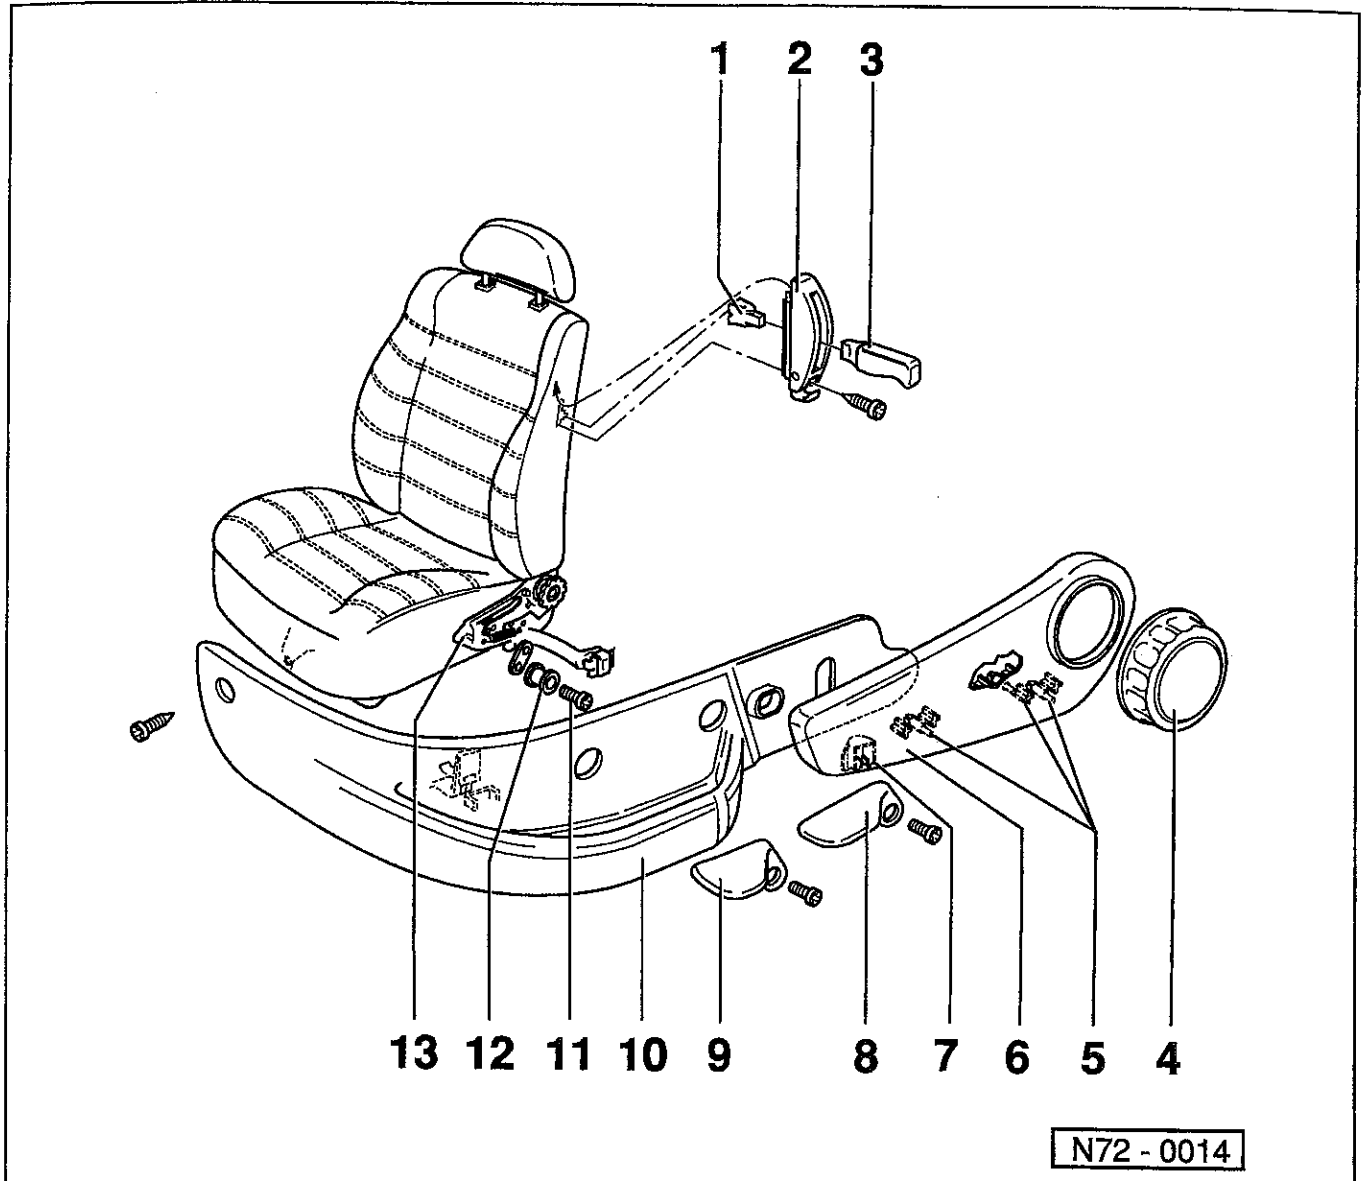

Fig. 2. Exploded view of front seat back rest components.
Fig. 2 shows the front seat backrest trim and mounting hardware. Use this illustration as a guide when removing and installing the seat backrest.
- Use new self-locking screws (item 11 in Fig. 2) at the bushings and remove any locking compound from nut threads with tap or thread chaser.